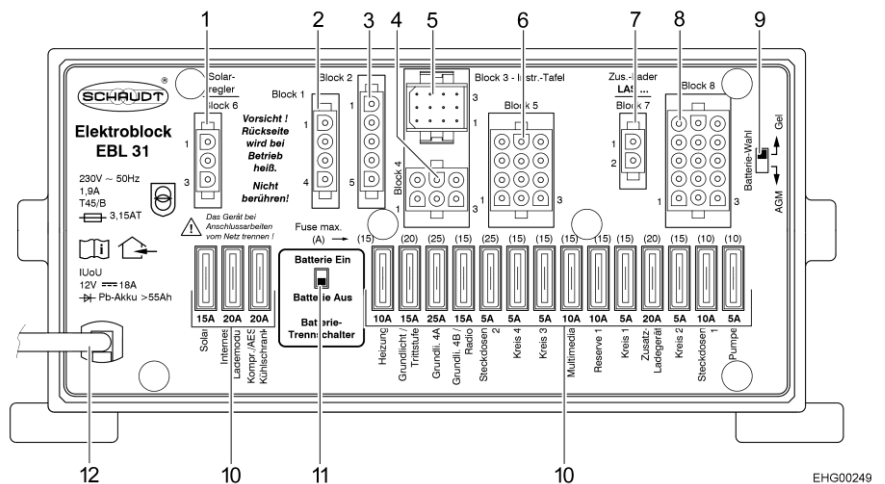

Fig. 95 Transformer/rectifier (EBL 31)
- ▷ To disconnect **all** electrical 12 V appliances from the power supply and prevent discharge of the living area battery, set the battery cut-off switch (Fig. 95,11) to "Batterie Aus" (battery Off) on the transformer/rectifier.
- ▷ Appliances such as the transformer/rectifier itself, the panel, the heater, the solar charge regulator (if present) and other devices consume a small amount of standby current and thus discharge the living area battery over time. Therefore, you switch the battery cut-off switch (Fig. 95,11) on the transformer/rectifier to "Batterie Aus" (battery Off) when the vehicle is not used for a long period of time.